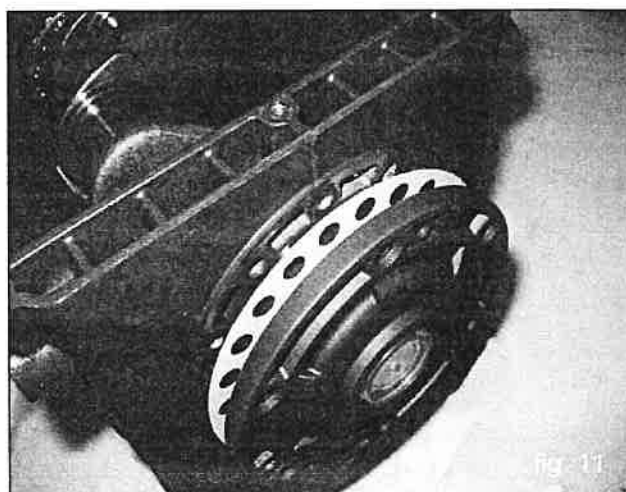

fig. 11
E) Insert the shims under the cover on the sight glass side (see fig. 11), fixing it to the crankcase using the appropriate screws, and verifying that the stall torque is between 4 Nm and 7 Nm.